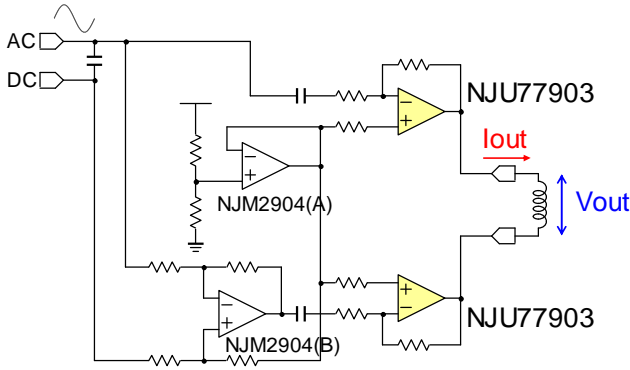
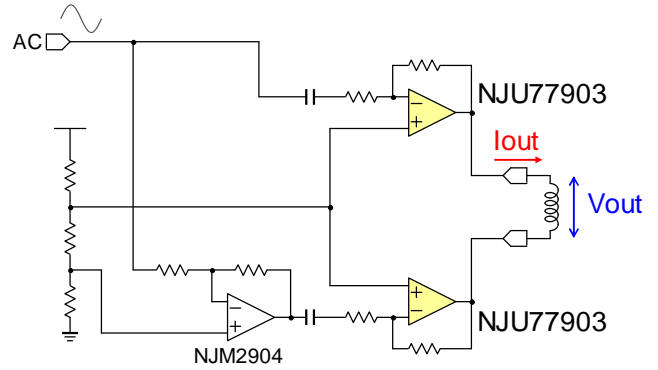
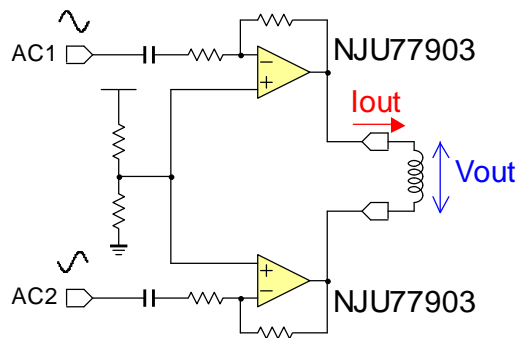

Fig.4.1 Resolver Excitation Circuit
Fig.4.2 Resolver Excitation Circuit
Fig.4.3 Resolver Excitation Circuit
Fig.4.1 shows the typical resolver excitation circuit using the NJU77903 and the NJM2904. The NJM2904(A) makes midpoint voltage and the NJM2904(B) makes signal phase inversion. Fig.4.2 is the circuit without NJM2904(A), its dominant voltage is given by resistance voltage divider. Fig.4.3 is the circuit omitted NJM2904(A) and NJM2904(B), it is available under the condition using the input signals which have phase difference one another.